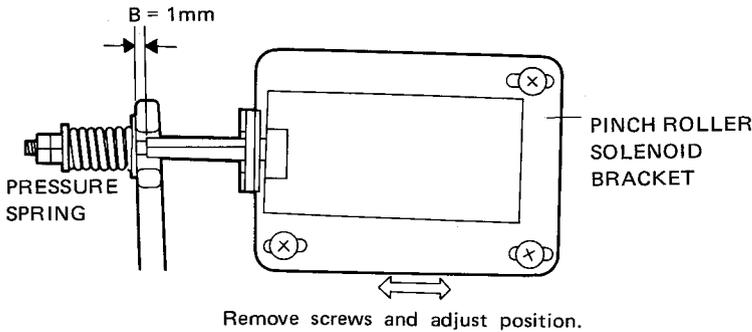

Fig. 13
## 6.4 PINCH ROLLER PRESSURE ADJUSTMENT (Figs. 13, 14)
3. Make sure that the gap B shown in Fig. 13 is 1mm.